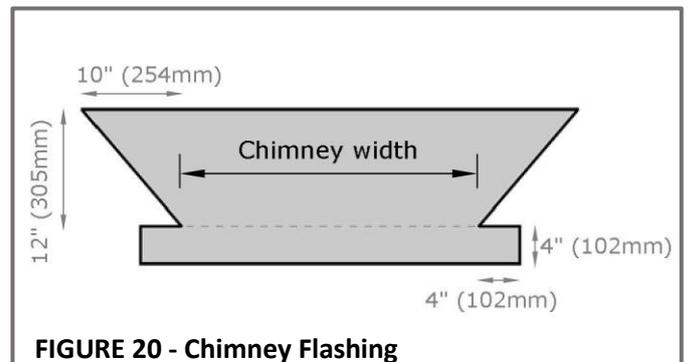

FIGURE 20 - Chimney Flashing
- Install an apron flashing on the front of the chimney. Install step flashing along the sides. For further details see the **VERTICAL WALL FLASHINGS** section. For recommended dimensions see **Figure 20**.